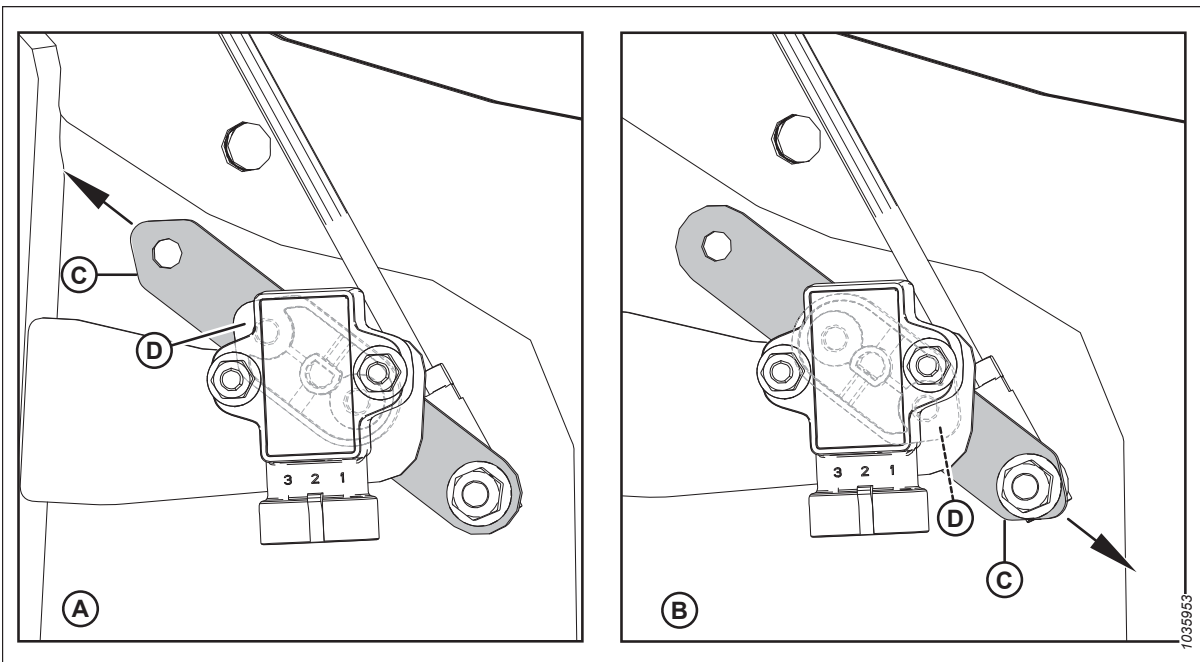

Figure 3.190: Sensor Arm/Pointer Configurations
5. Ensure that sensor arm (C) and pointer (D) are configured properly for the header. For instructions, refer to Figure 3.190, page 166.